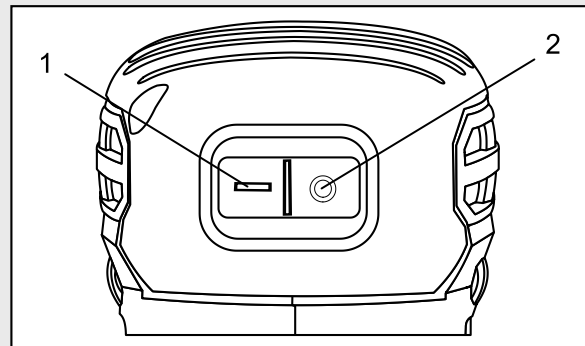

Fig. 6
To turn the switch ON, press the left hand side of the ON/OFF switch (1) (Fig. 6). To turn the switch OFF, press the right hand side of the ON/OFF switch (2).